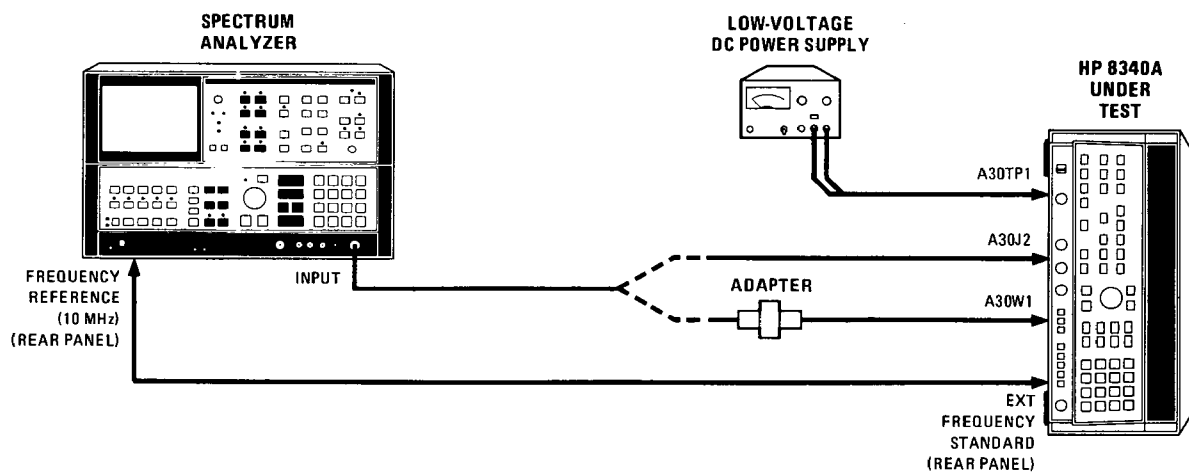

Figure 5-6. 100 MHz VCXO Adjustment Setup
1. Position 8340A in the Test Position as shown in Figure 5-6 with bottom cover removed. Connect equipment as shown in Figure 5-6. On the 8340A rear panel, disconnect BNC cable connected between INT and EXT Frequency Standard connectors, set INT/EXT switch to EXT, then connect cable from EXT connector to Spectrum Analyzer Frequency Reference (10 MHz) rear-panel connector. Allow instruments to warm up for one-half hour.